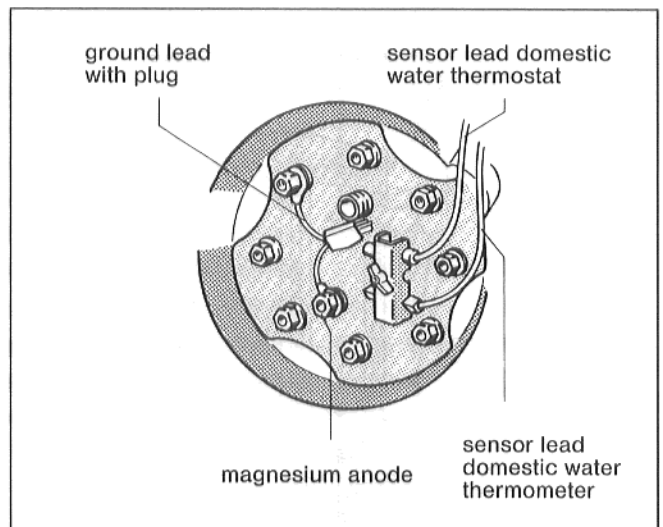

Fig. 14
- Insert the ring of the ground lead and screw in the hexagonal head bolts (Fig. 14).